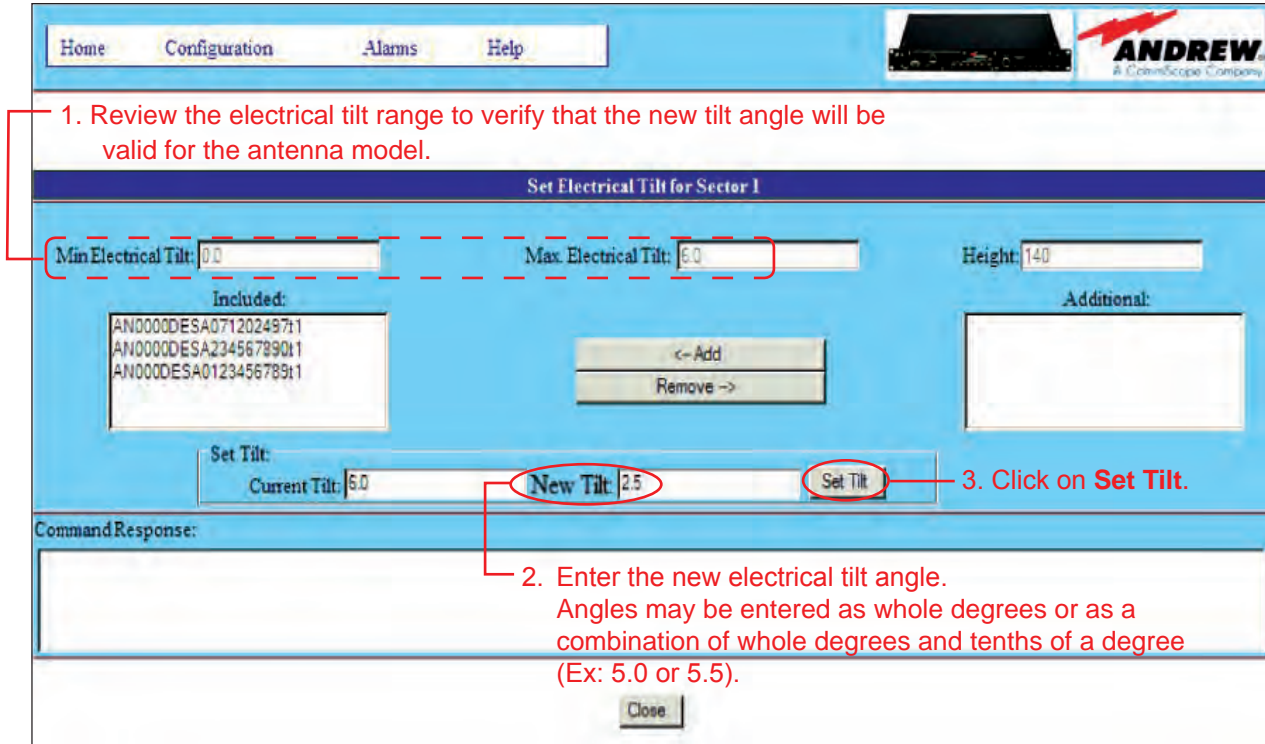
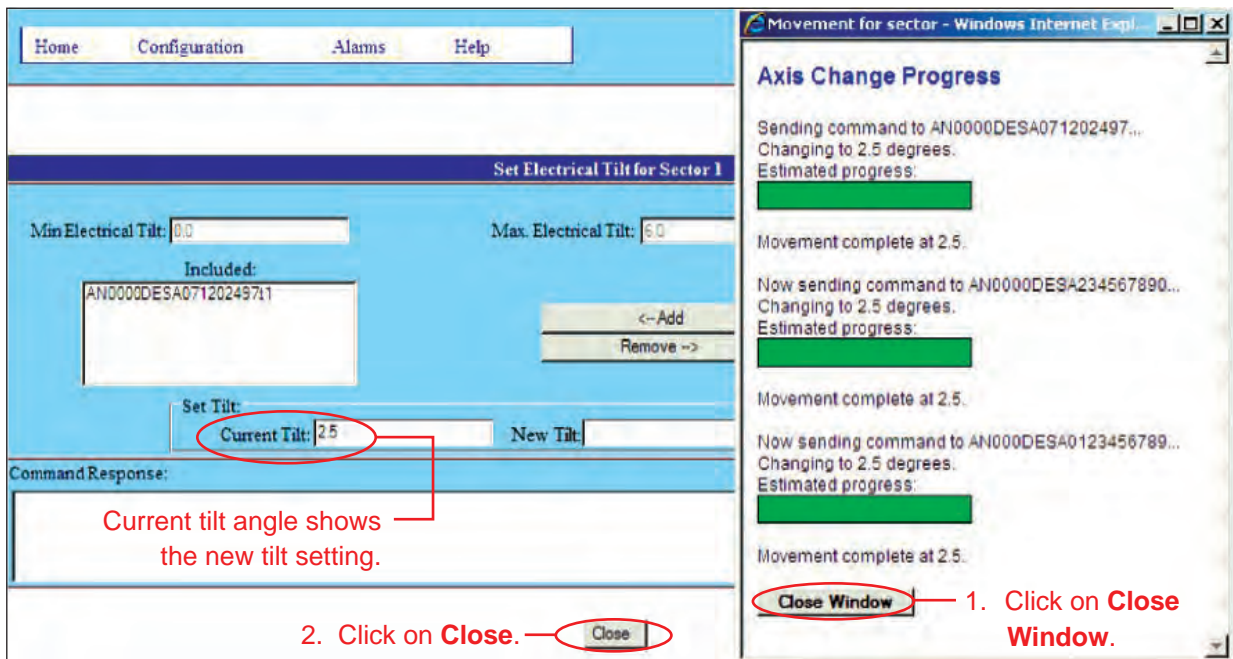

Figure 17-3. Changing Electrical Tilt Setting For Antennas In Sector Move.
Figure 17-4. Tilt Change Is Complete For Sector Move.
5. When satisfied with the list of antennas that will be included in the group move, enter a new downtilt angle in the **New Tilt** text entry field, and click on **Set Tilt** to begin the move (Figure 17-3). Progress for each antenna movement in the group will be displayed separately (Figure 17-4).
6. You will be notified when all antennas have successfully reached the new tilt angle. Click on **Close Window** from the pop-up window (Figure 17-4).
7. The new angle will be displayed in the **Current Tilt** field and the **New Tilt** field will be cleared. If further adjustments are needed, they may be done before exiting this screen. When the desired adjustments are complete, click on **Close** (Figure 17-4) to return to the controller's main interface screen (Figure 17-5).